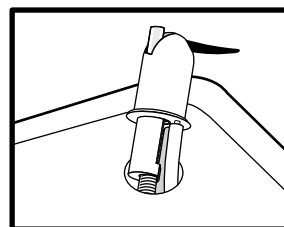

Figure 5
2. Holding the faucet, feed the three tubes through the hole in the sink. Position the faucet handle at the desired location (Figure 5).